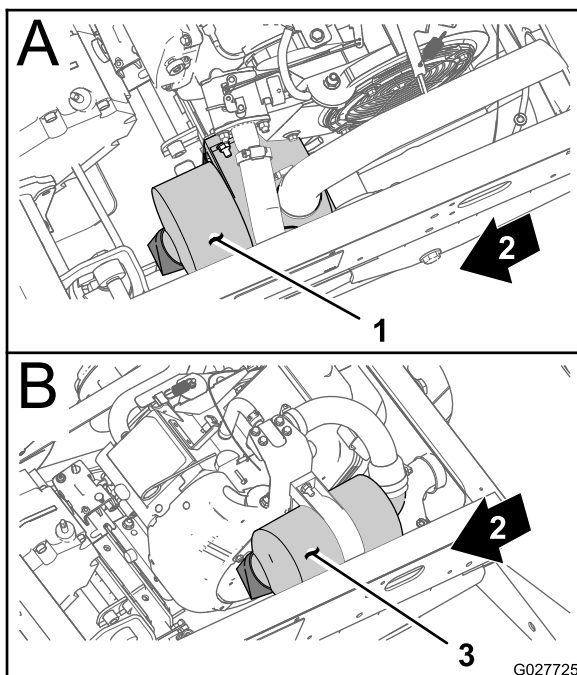
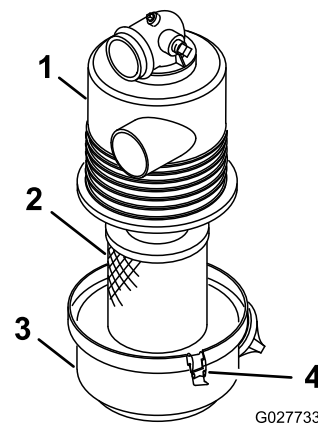

Figure 28
Figure 29
2. Check the air cleaner body for damage which could possibly cause an air leak. Ensure the cover is sealing around the air cleaner body (Figure 28 and Figure 29).
3. Release the latches securing the air-filter cover to the air-filter housing (Figure 29).
4. Separate the air-filter cover from the air-filter housing, and clean the inside of the cover (Figure 29).
- 3. Insert the air-filter element into air-filter housing (Figure 29).
- 4. Align the air-cleaner cover with the air-cleaner housing (Figure 29).
- 5. Secure the cover to the housing with the latches (Figure 29).